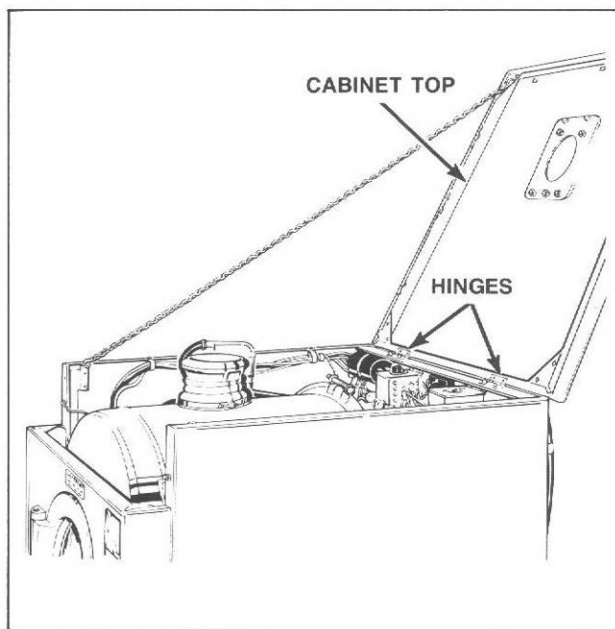

Figure 8
- Tilt cabinet top backward and hold in raised position with a small chain, Figure 8.
- Remove four screws and nuts holding cabinet top to hinges, Figure 8.